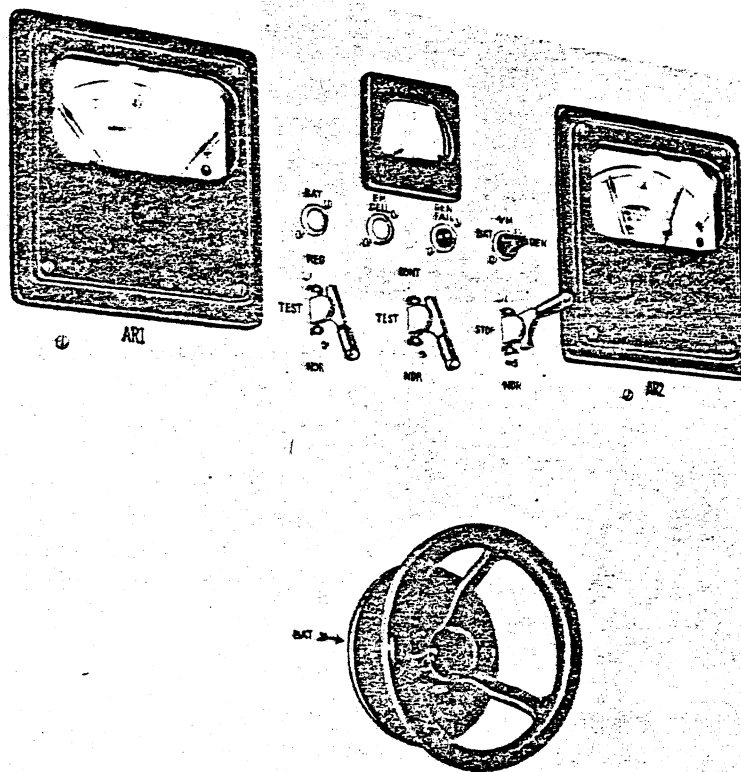
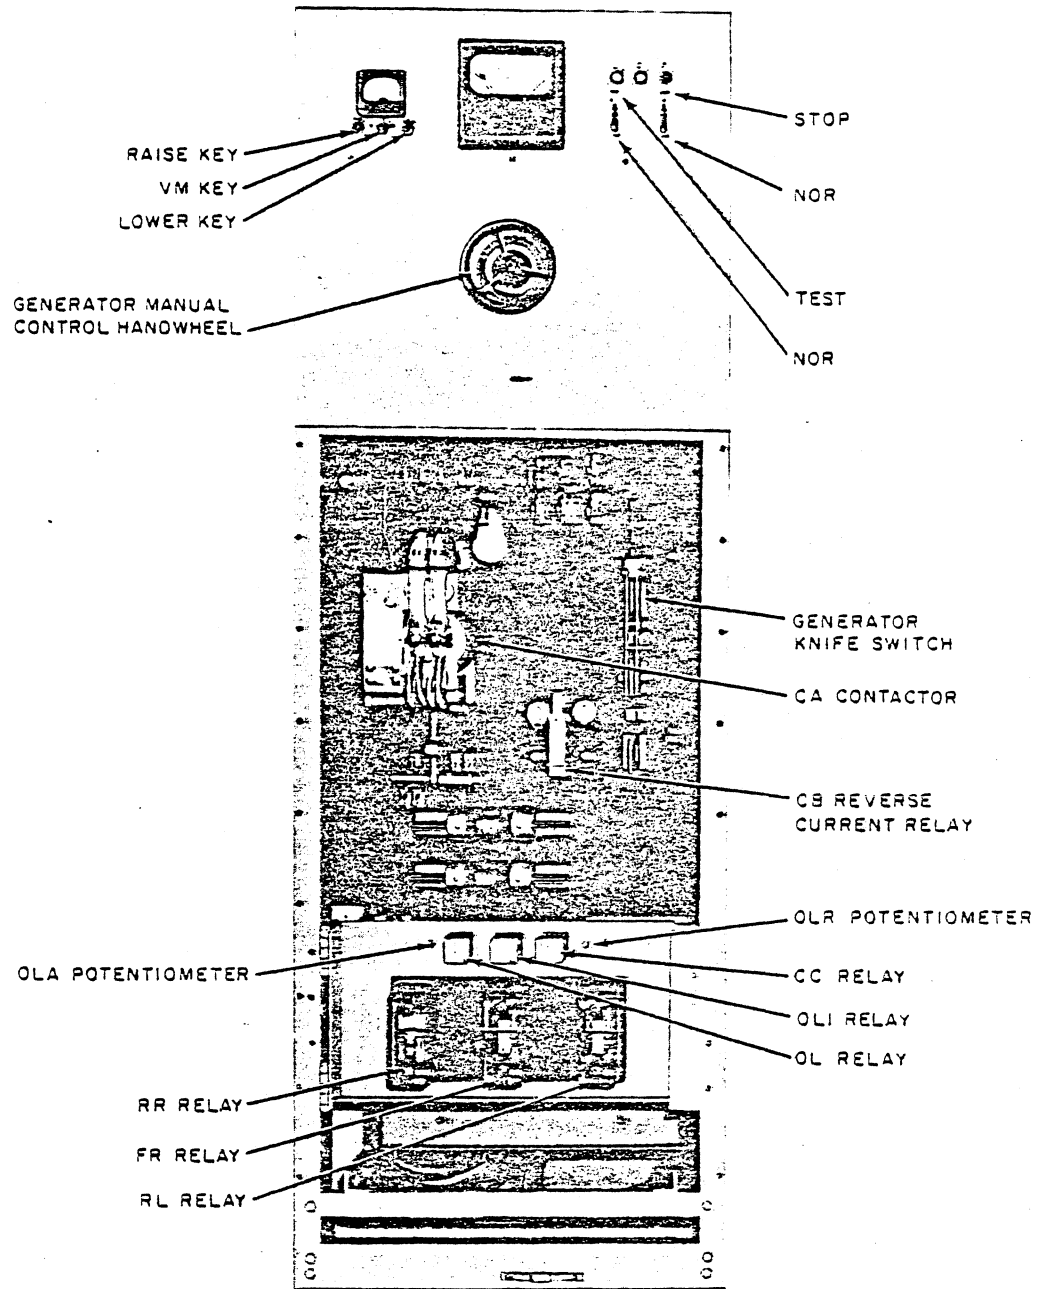

Fig. 2—Voltage Regulated Generator Controls
Fig. 4—Current Controlled Generator Control Bay
3.01 The 302A power plant will operate with G charging units alone or in combination with G-zero charging units. G charging units can be either motor-generators or rectifiers and are arranged for voltage-regulation or current-controlled operation and are connected to operate successively. The first two charging units in the plant, G1 and G2, are electronic-type voltage-regulated units. (See Fig. 2 and 3.) All subsequent units are current-controlled (raise/lower) units. (See Fig. 4) G-zero charging units are *always* voltage-regulated rectifiers and may be added to the -24 or -48 volt plant to operate ahead of the G1 unit. In the 48-volt plant a replaced voltage-regulated G1 or G2 unit may be reconnected as a 2-step current unit. As many as two of the 2-step units may be added.
G1 AND G2 GENERATOR CONTROL BAY (Fig. 2)
G3 THROUGH G10 GENERATOR CONTROL BAY (Fig. 4)